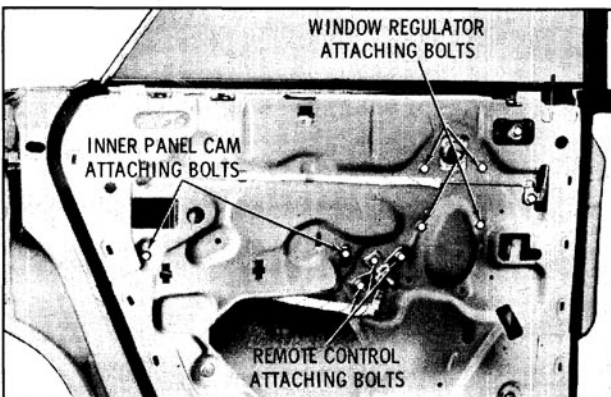

Fig. 16-66 Rear Door Hardware
- Remove regulator attaching bolts (four), disengage balance arm from inner panel cam and remove regulator assembly through large access hole. (Fig. 16-66)
- (1) With window in the full up position, loosen front guide cam lower adjusting stud nut on 39 styles (Fig. 16-66) and front guide cam upper and lower adjusting stud nuts on 29 styles (Fig. 16-65).